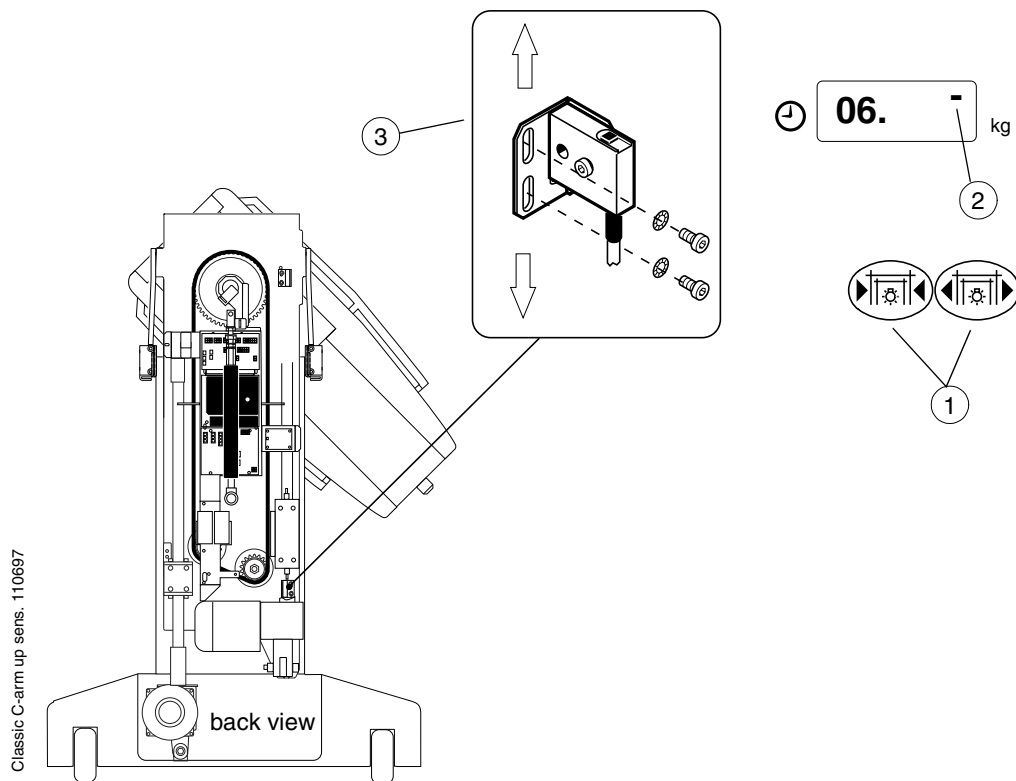

Figure F.31
- a) Drive the C-arm to the  $-135^\circ$  position with field/light keys. (Fig. F.31, 1) Check that the right upper signal on the display (Fig. F.31, 2) lights when the C-arm is in the position slightly over  $-135^\circ$  but the worm screw nut does not hit the spacer.
- b) If this does not happen, adjust the position of the Rotation upper limit sensor (Fig. F.31, 3). Check the rotation and readjust, if needed.